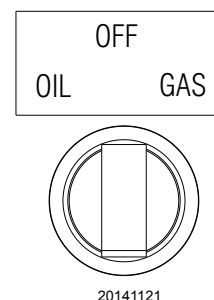

Fig. 36
- fuel selector switch in "**GAS**" position (Fig. 36).